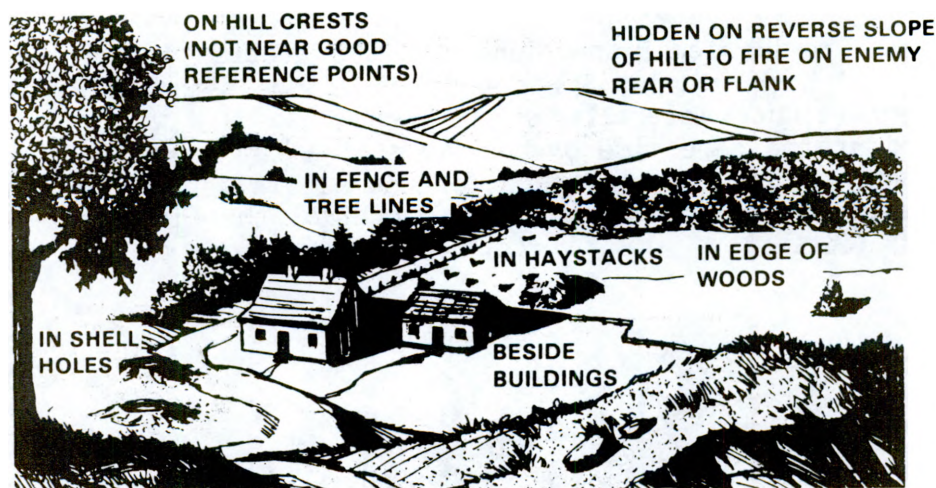

Figure 4
c. **Avoid Conspicuous Terrain Features.** Always use terrain to your best advantage. Virtually every piece of terrain has features that can enhance or degrade mission accomplishment with the TOW. Conspicuous terrain features, such as road junctions, hilltops, lone buildings, or trees, will attract the enemy's attention; and he will probably have registered on them. As a leader, you must be able to recognize those terrain features that will serve the chances for success with the TOW, and lessen its vulnerability to detection. See figure 4 for examples.